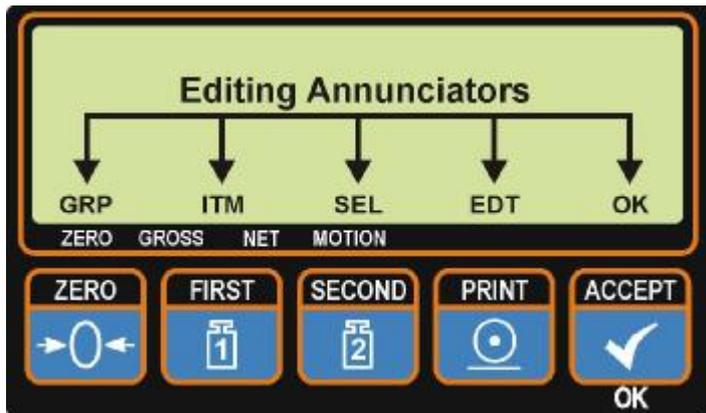

Figure 13: Rinstrum 5230 Keypad - Editing Annunciators
**Setup:** When in Setup the **5230 Keypad** displays editing annunciators depending on the keypad key being pressed. Figure 13 identifies each of the editing annunciators. When in Setup, press the corresponding blue keypad key (below the annunciator) to choose **GRP** (Group), **ITM** (Item), **SEL** (Select), **EDT** (Edit) or **OK**. Refer to **Editing Annunciators** page 37 for more information on using editing annunciators.